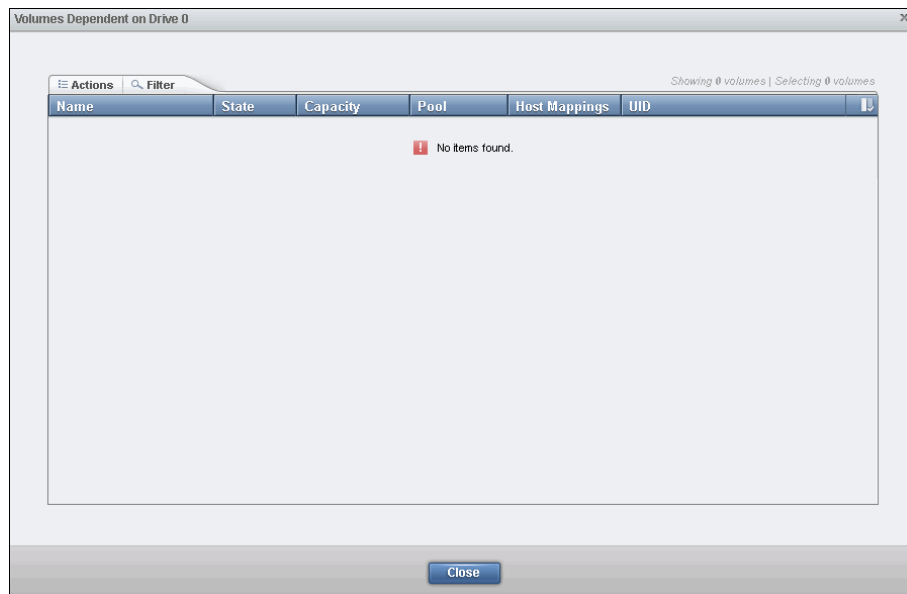

Figure 7-13 Internal drive no dependent volume
2. Figure 7-13 shows an example if no dependent volumes are detected for a specific drive.